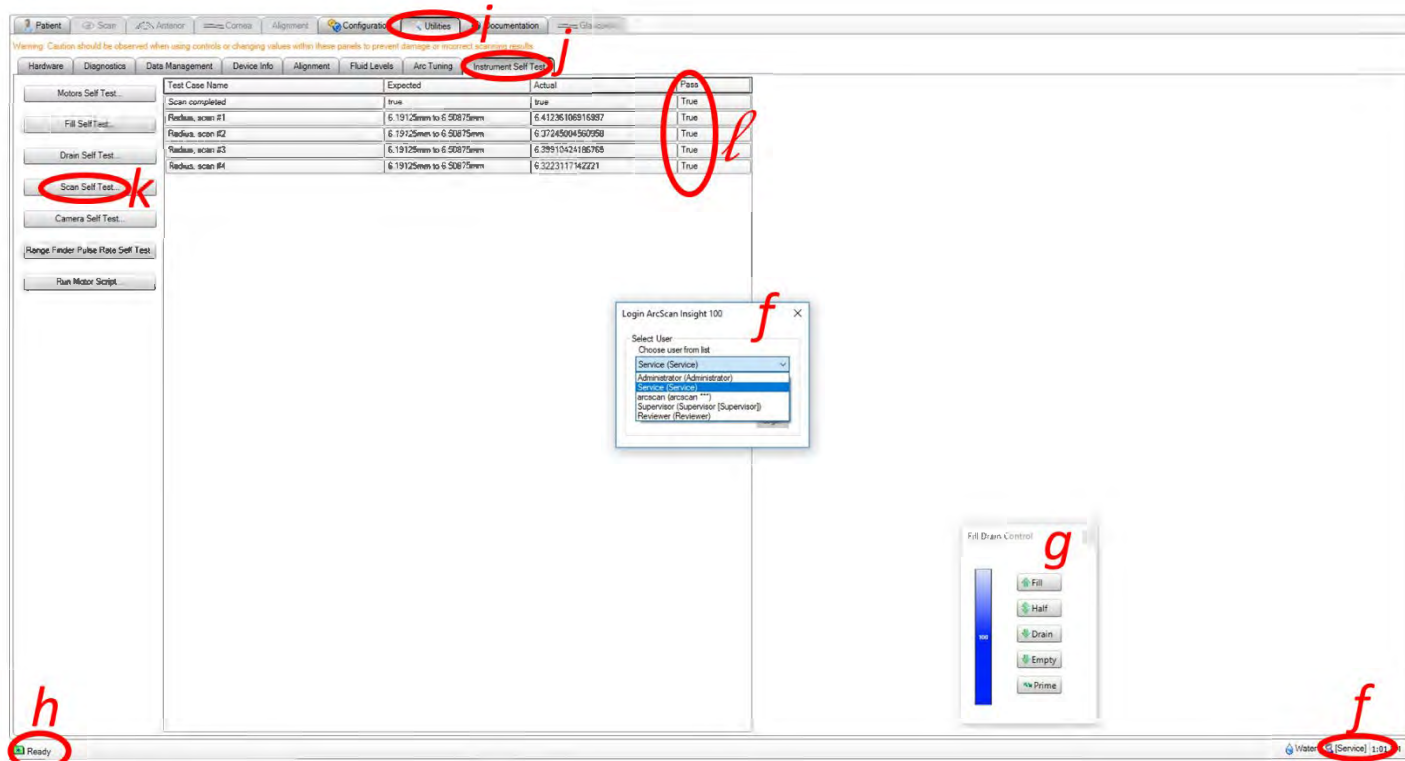

Figure 41: Scan Self Test
2. The Scan Self Test is performed as follows (see **Figure 41** for visual guidance):
- f. Log in **Service** mode (bottom right-hand side corner; password is **33arc\$\$scan76**), see **Figure 41**.
- g. Fill water, see **Figure 41**.
- h. On the bottom left-hand side corner, make sure system is **Ready**, see **Figure 41**.
- i. Go to **Utilities** tab, see **Figure 41**.
- j. Go to **Instrument Self Test** sub-tab, see **Figure 41**.
- k. On the left-hand side of the screen, press **Scan Self Test** and wait for results, see **Figure 41**.
- l. If all four Scan tests are “**true**”, note the results in the maintenance sheet (four digits after the decimal point is good enough), see **Figure 41**. Contact ArcScan if system does not pass one or more tests (“**false**”),